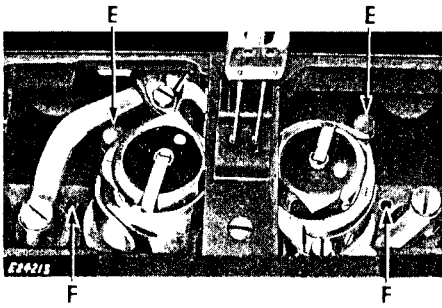

Fig. 2.
1. Remove the two oil gauges E, Fig. 2, and fill the two oil reservoirs to the full mark on the gauges. Keep the oil level to the full mark on the gauges.
2. Apply oil at least twice daily to the two oil holes F, Fig. 2.